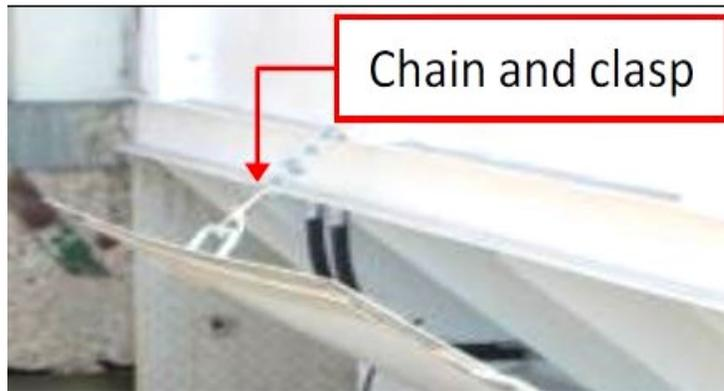

Figure 1. Chain and Clasp
1. Ensure there are no obstructions or debris and open the access panels on both sides by unscrewing the retaining nuts. Secure the panels in the (up) position using the provided chain and clasp. Ensure the panels do not become loose and swing downward to cause injury (Figure 1). For panels without a top hinge, remove retaining nuts, remove side door, and lay panel flat on the ground. Notify your supervisor if clasp or chain is broken, non-functioning, or missing.